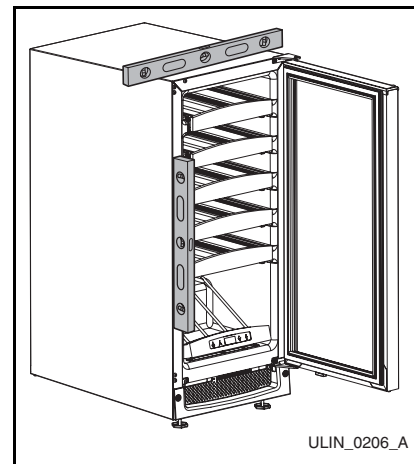

Figure 11
1. Use a level to check the levelness of the unit from front to back and from side to side. Level should be placed along top edge and side edge as shown (**Figure 11**).